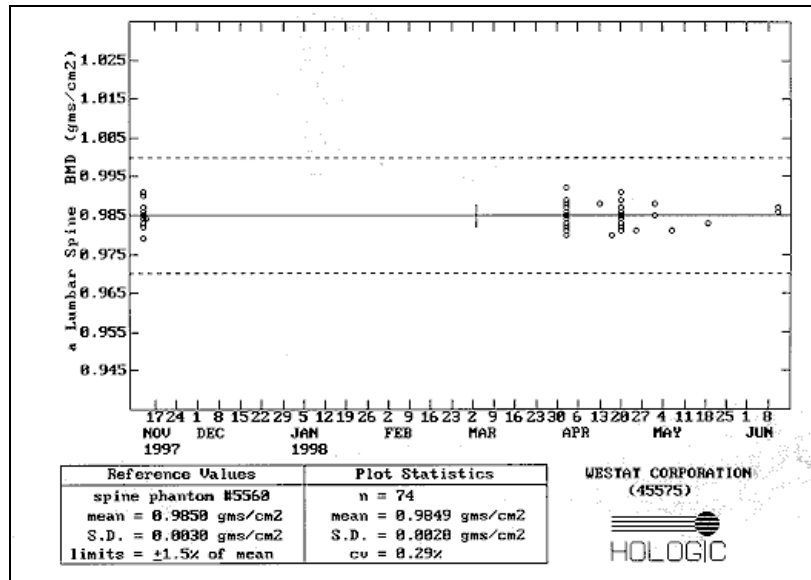

Figure 6-6. Spine phantom QC – plot for BMD
- Check the BMD graph for the circle for today's scan (at far right side of graph). See Figure 6-6.